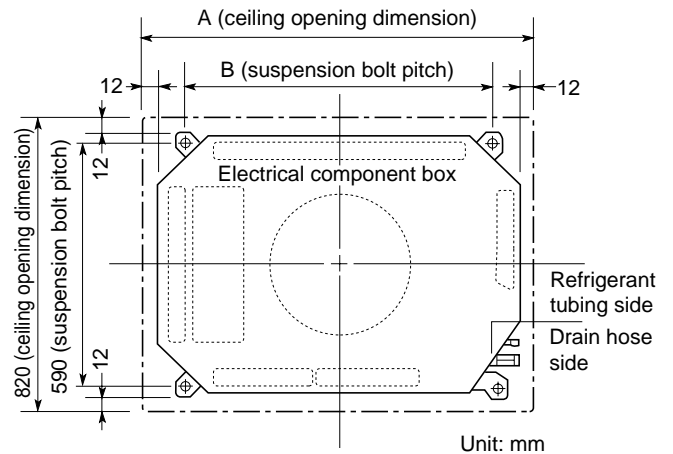

Fig. 3-34
- (2) Follow Fig. 3-34 and Table 3-2 to make the holes in the ceiling.